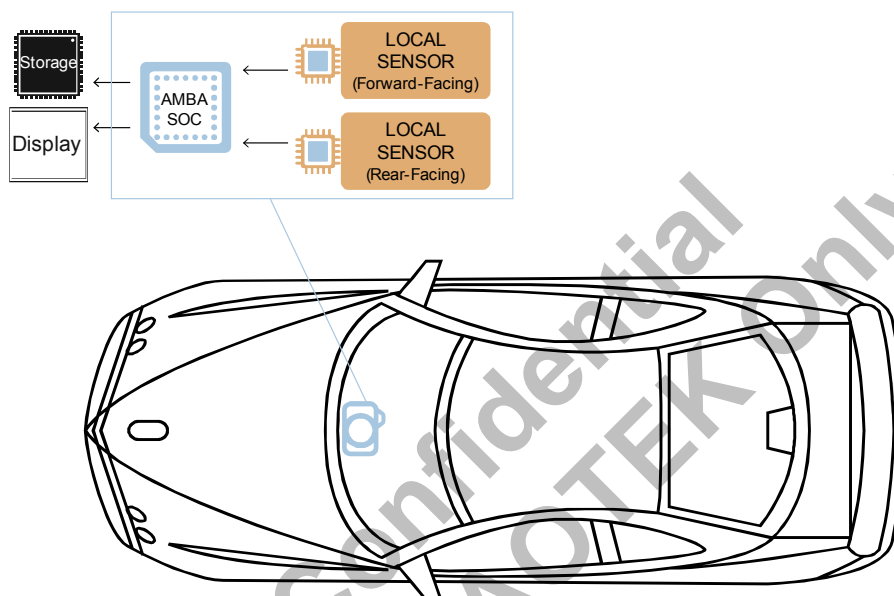

Figure 1-2. A12A35 Automotive Video Camera Application: Two-Channel Standalone with Two Local Sensors.
- Two local sensors generate two distinct inputs to the A12A35 SoC (Figure 1-2)